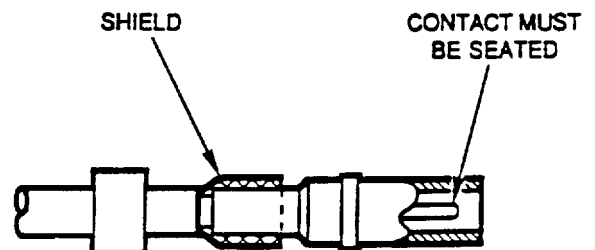

Figure 9. Shield Preparation
h. Slide contact body over center contact assembly and under shield until fully seated (Figure 9).